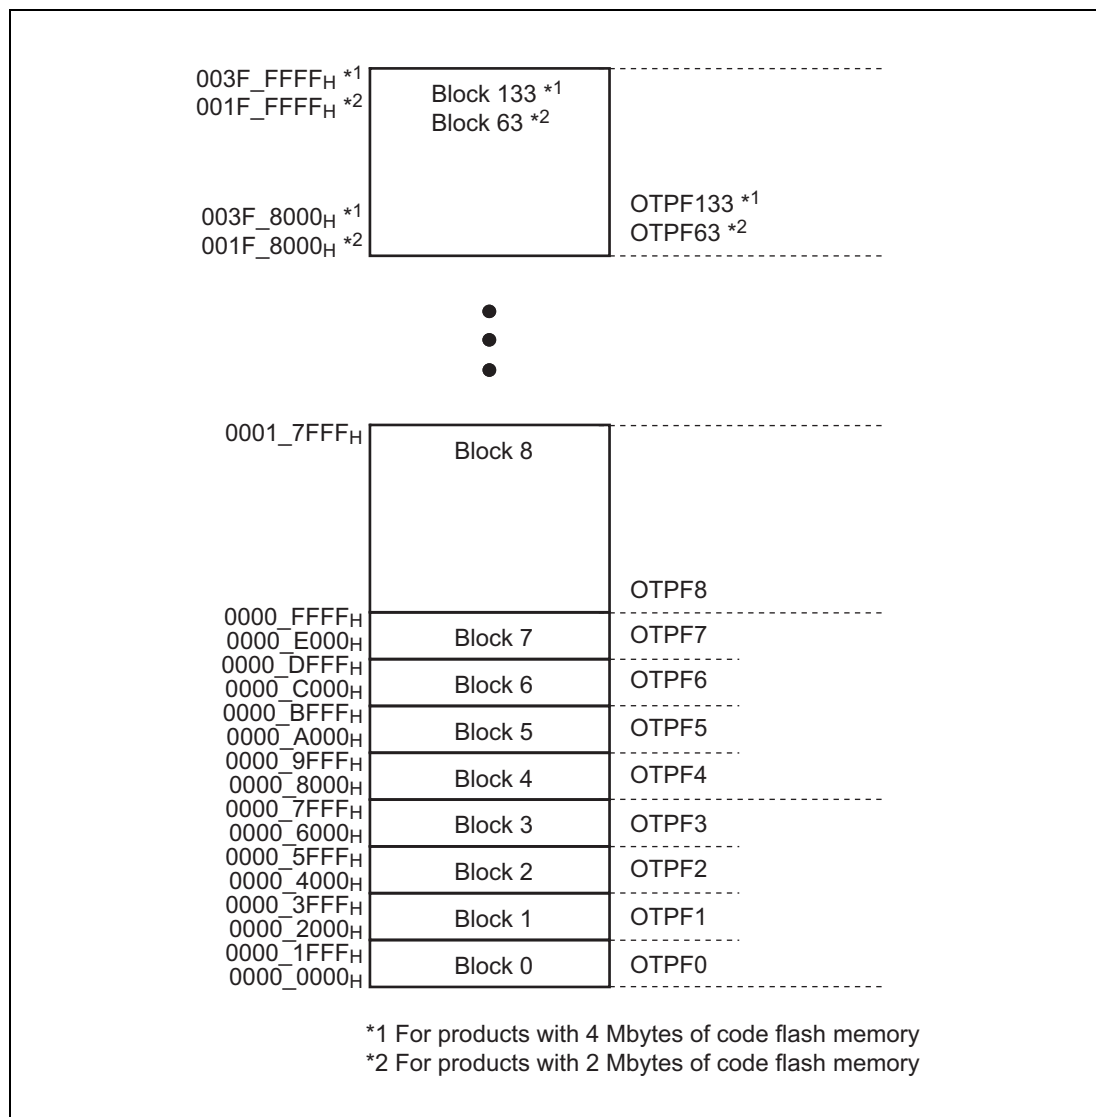

Figure 6.29 Relationship between User Area Blocks and OTP Setting Flags
**Figure 6.29** shows the relationship between the user area blocks and OTP setting flags. OTP setting flags are allocated to each block of code flash memory. Products with 4 Mbytes of code flash memory have 8 Kbytes × 8 blocks + 32 Kbytes × 126 blocks and OTP flags OTPF0 to OTPF133 whereas the